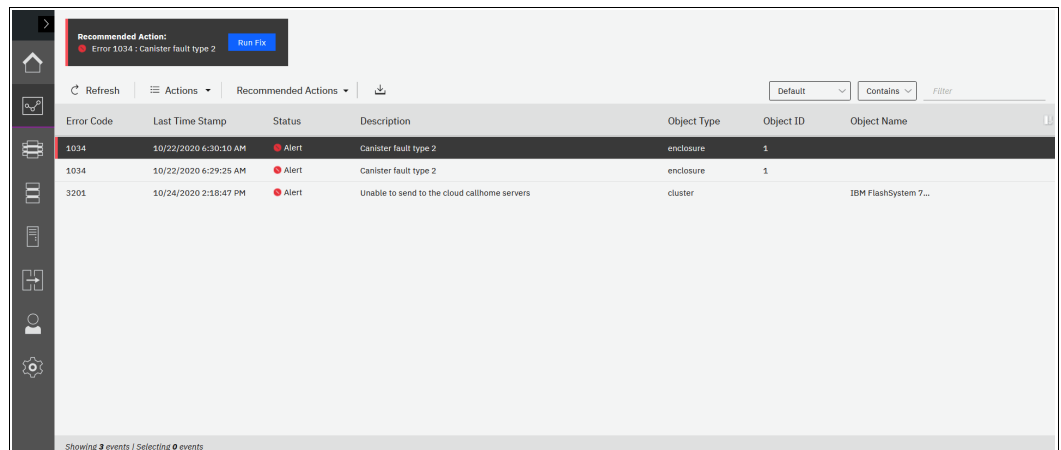

Figure 13-37 Recommended Actions
2. Select **Recommended Actions** from the drop-down list to display the most important events to be resolved (see Figure 13-37). The **Recommended Actions** tab shows the highest priority maintenance procedure that must be run. Use the troubleshooting wizard so that the system can determine the proper order of maintenance procedures.